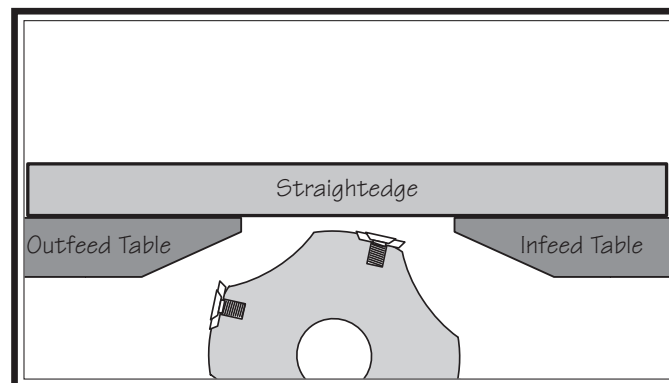

Figure 51. Infeed and outfeed tables set evenly.
4. Adjust infeed table until it is level with outfeed table, as illustrated in **Figure 51**.